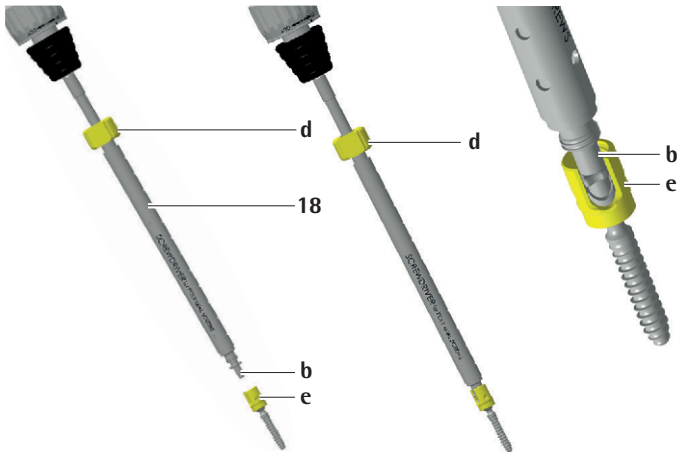

Fig. 19
- ▶ Place the tip b of the screwdriver into the head e of the screw until the tip b of the screwdriver sits in the socket of the polyaxial screw and thus axially aligns to the screw shaft, see Fig. 19.